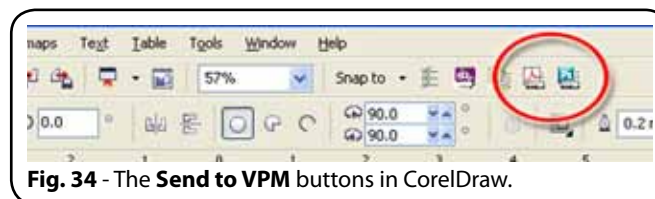

Fig. 34 - The **Send to VPM** buttons in CorelDraw.
7. For the cut path shape, assign its fill to None, and assign a hairline stroke that uses the color set in step (3).
9. From the Standard toolbar, click the **Send to VPM** button (Fig. 34).